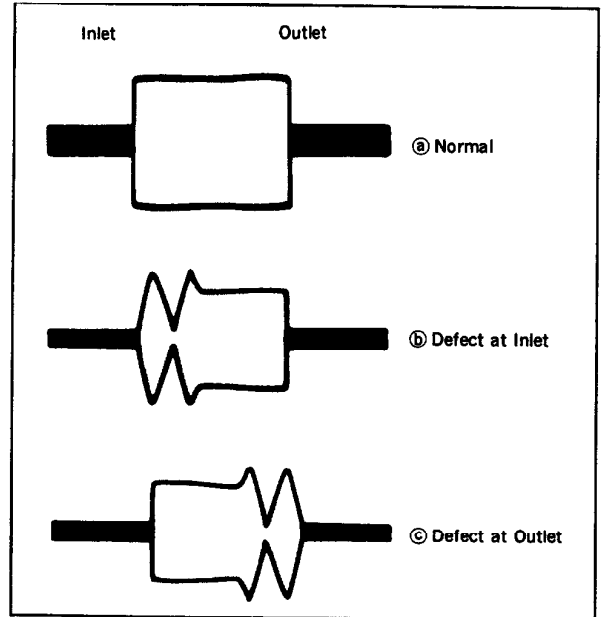
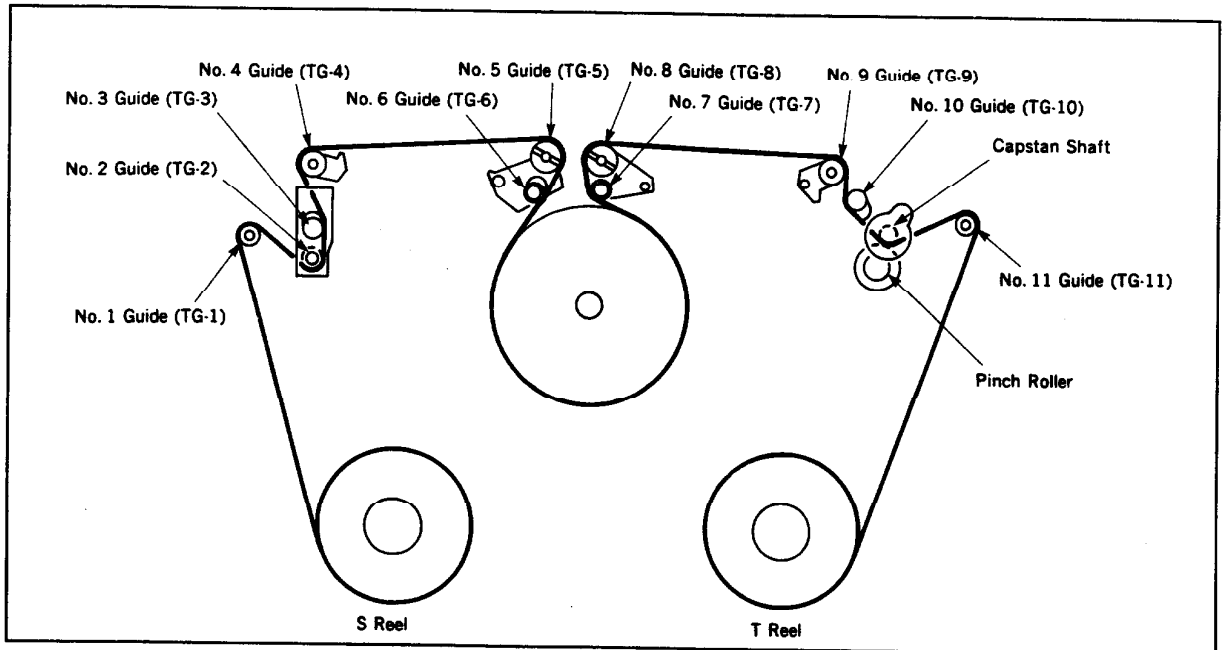

Fig. 50
Fig. 51 Tape Guides Location
- 1) Clean the tape running surfaces (tape guides, drum, capstan shaft, pinch roller). (Fig. 51)
- 2) Set the PATH mode by shorting the TEST pins (CN404 pins ① and ④ for CCD-V11/V88).
- 5) Check that a RF waveform is flat at the inlet and outlet of the oscilloscope. (Fig. 50 ③)
When the RF waveform is not flat at the inlet/outlet ; (Fig.50 ② and ③)